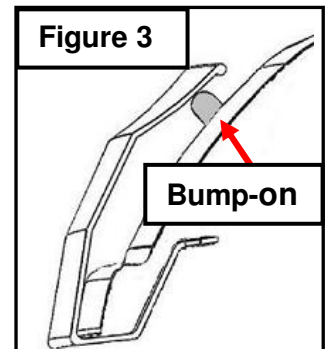

Figure 3
6. Attach rubber bump-on to the factory hood where the corners of the Hood Shield are closest to the hood. **(Figure 3)** **Clean area first with isopropyl alcohol and remove adhesive backing from bump-on and apply to the hood.**